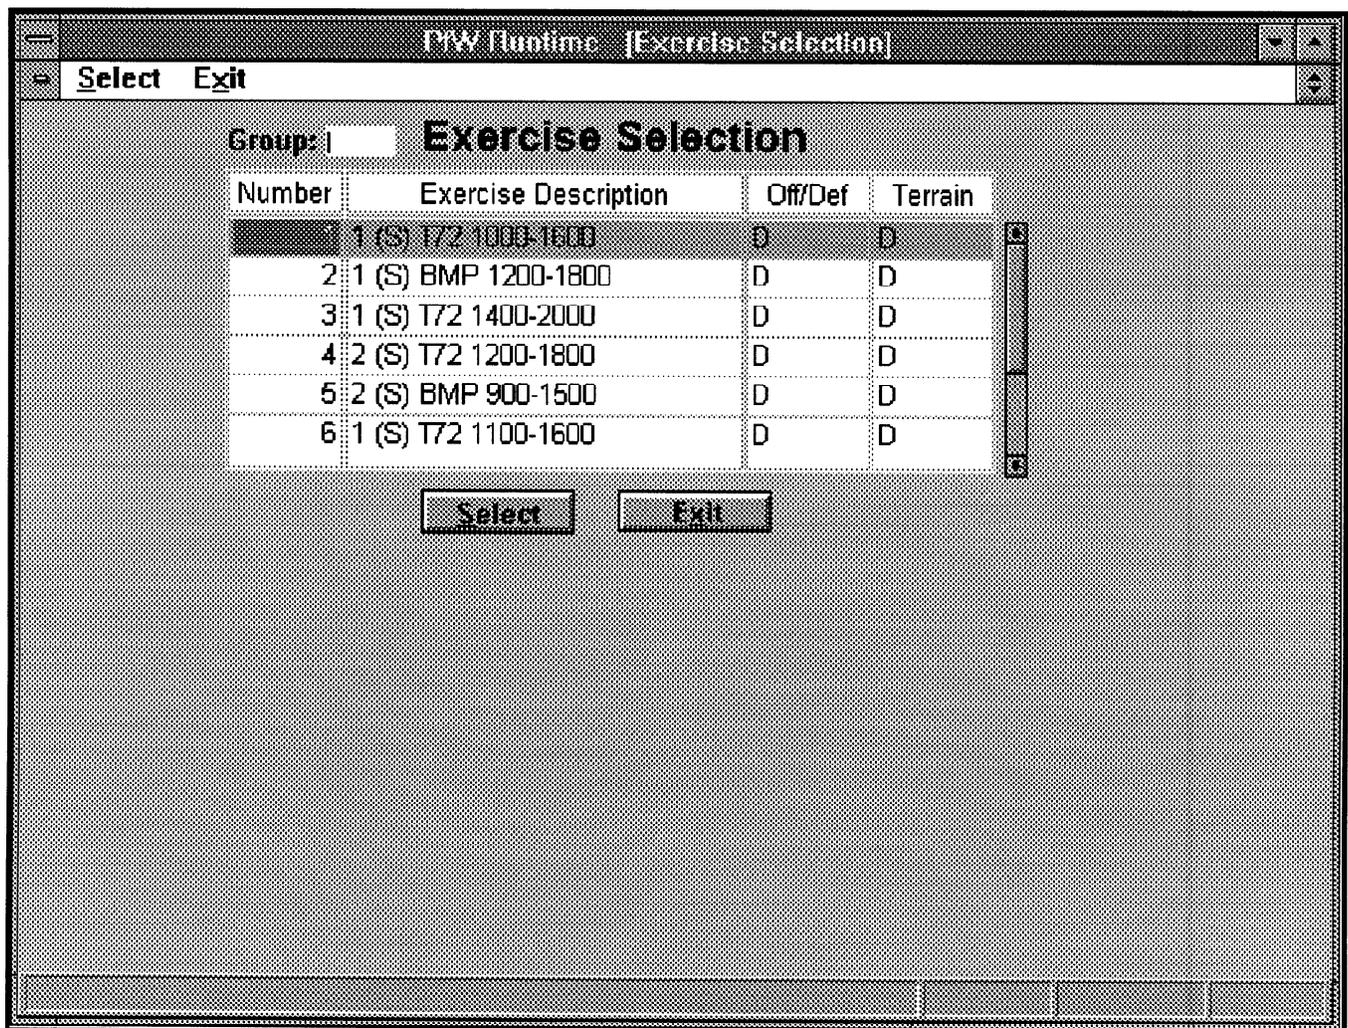

Figure 2-112. Exercise Selection Screen:
- a. At the Exercise Identification Screen, click on the Select button or select Select from the Menu Bar. The Exercise Selection Screen, Figure 2-112, displays with the currently selected group number.
- (1) Number. Displays the exercise number, 1, 2, 3, 4, 5, or 6, for the exercise. The number is an unique number used to identify the particular exercise within the selected group
- (2) Exercise Description. Displays a general text description of the exercise task.
- (3) Off/Def. Indicates to whether the exercise is offense or defense. The displayed values are O or D.
- (4) Terrain. Indicates which terrain database to be used for the exercise. The displayed values are D or E.